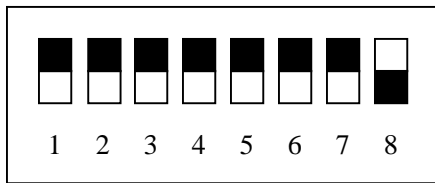

Figure1 DIP Switch
- ① Set SW8 of the DIP switch of the controller board to be detached as shown in Figure 1.